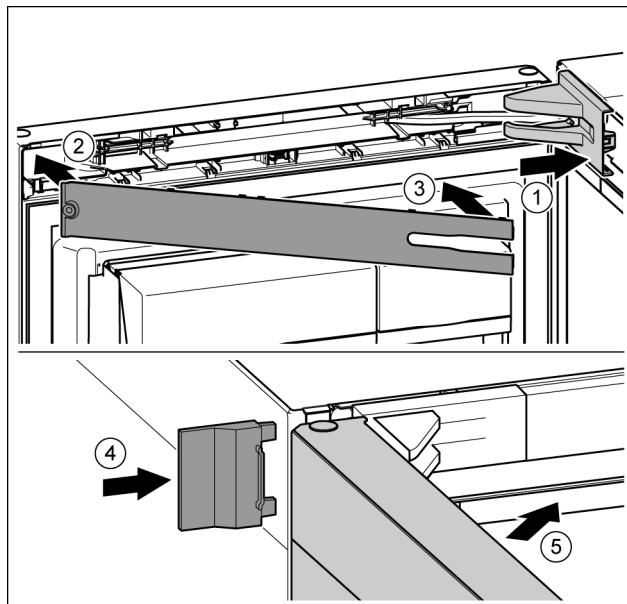

Fig. 43
- ▶ Position the bearing bracket and engage. If necessary push apart carefully. *Fig. 43 (1)*
- ▶ Position the panel. *Fig. 43 (2)*
- ▶ Swing in the panel and click into place. *Fig. 43 (3)*
- ▶ Slide on the external cover. *Fig. 43 (4)*
- ▶ Close the upper door. *Fig. 43 (5)*